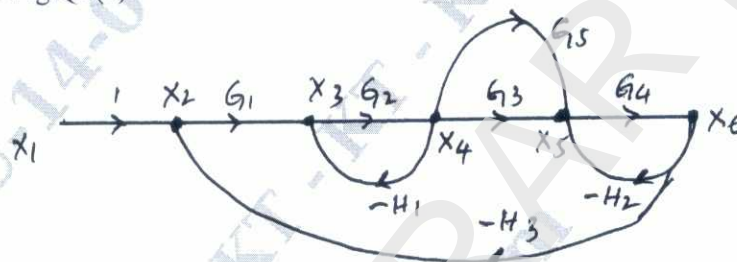

Fig.Q3(c)
- c. Determine transfer function $X_6(S)/X_1(S)$ using Mason's gain formula for the signal flow graph shown in Fig.Q3(c). (06 Marks)